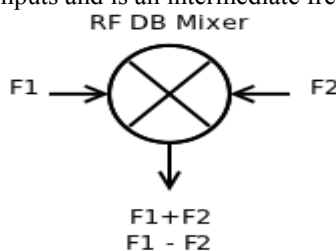

Fig 1. Basic Mixer Ports
Most down converting mixers [5] are three-port devices, as shown in Figure 1. They take two input and the output is a mixing product of these two inputs and is an intermediate frequency (IF) signal